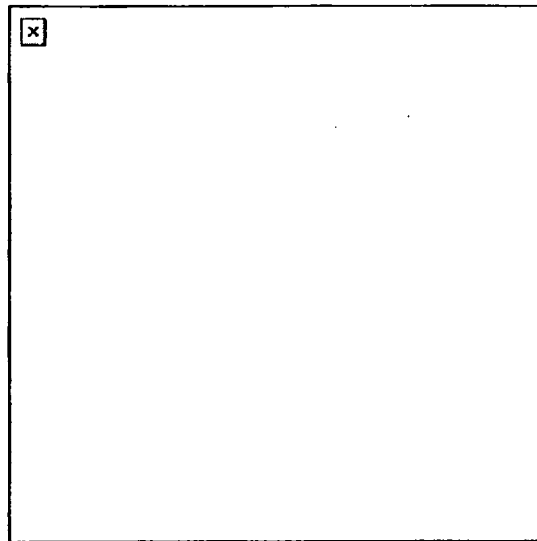

Figure 1. Pistol ready position, one-hand grip.
**Standards:** Upon acquiring a target - (1) Insert a magazine in the pistol and chamber a round. (2) Grip the pistol properly, assume a firing stance, and fire the round(s) at the target, suppressing, injuring, or killing the target. (3) Perform immediate action on the pistol if it fails to fire. (4) Immediately clear the pistol after firing.
- d. Wrap your lower three fingers around the grip, putting equal pressure to the rear with all three fingers (Figure 1).